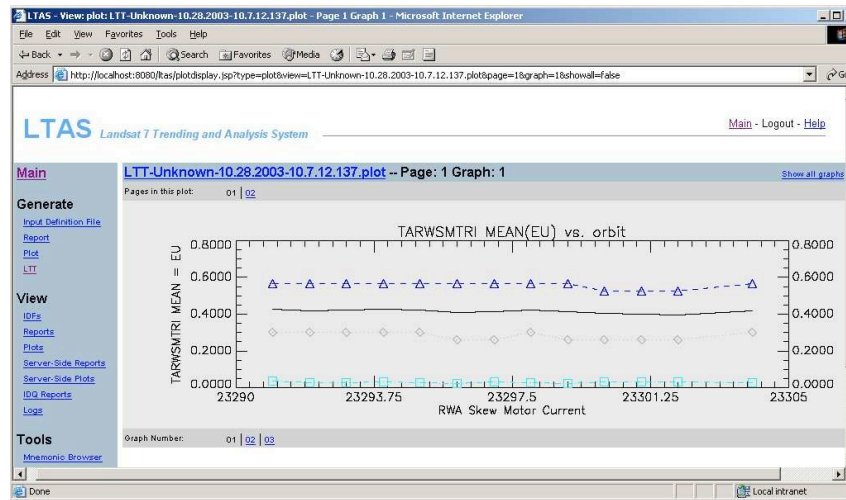

Figure 133: LTT Plot Page
- Left-click the report filename or the ‘view’ beside the plot name in the Completed Requests portion of the ITPS Main web page to view the report or plot (see *Figure 133*) in the browser.